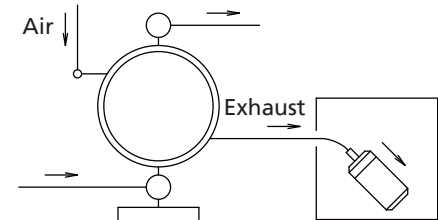

Figure 14
- Exhaust should be directed outside, not into the fluid in which the pump is submerged. For information on how to arrange the exhaust, see Note – Arranging outside exhaust and Figure 14.